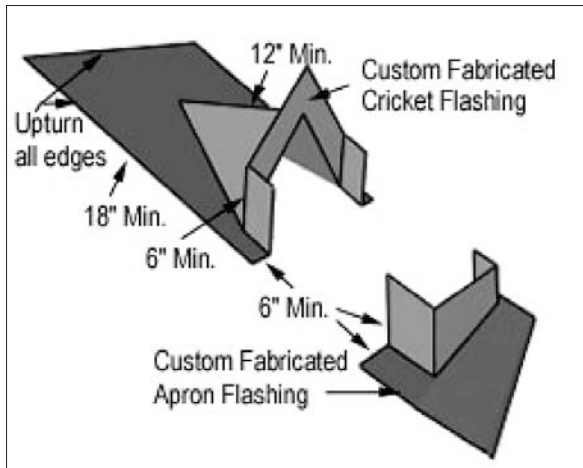

FIGURE 1-38 Panel Application
1. **Apron Flashing:** The use of color matched standard Endwall Flashing or site fabricated from color matched flat stock is recommended. Apply the apron flashing around the down-slope side of the chimney, after panels have been applied up to the downslope side of the chimney. The apron flashing should be formed so that the lower flange extends at least 4 inches (102mm) over the panels on the down-slope side. The vertical flange should extend at least 6 inches (153mm) up the face of the chimney. *See Figure 1-38.*
3. **Cricket or Upslope Backer Flashing:** *See Figure 1-38.* Apply on the upslope side or back of the chimney. Shop or site fabricated from color matched flat stock is recommended. If the size of the chimney is relatively small (e.g., less than 24 inches (610mm) wide), a cricket may not be necessary. In this condition, a sheet metal backer flashing or a membrane material that is intended to be left exposed to the weather may be applicable for flashing the upslope side of the chimney. A sloped cricket may be needed (depending upon the climate, roof slope and chimney size) on the upslope side of the chimney if a relatively large chimney is present. The sloping wood cricket may be roofed with panels and flashed with a valley flashing.